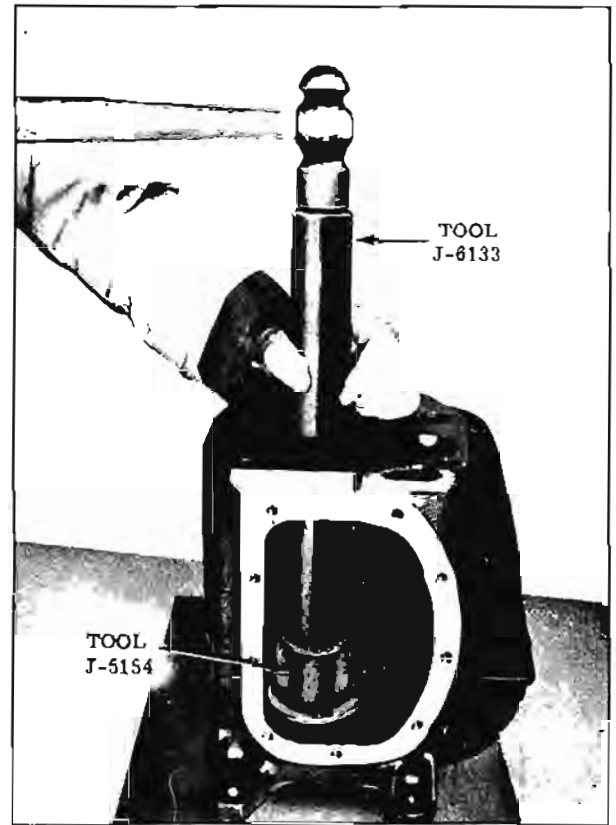

Fig. 11-226 Main Drive Gear Bearing Removal
1. Place the transmission case on two pieces of 2\" x 4\" board approximately 12\" long with the front of case down as shown. (Fig. 11-226)
2. Using tools J-6133, Bearing Driver, and J-5154, Jetaway Extension Housing Seal Installer, drive the bearing out of case as shown. (Fig. 11-226)